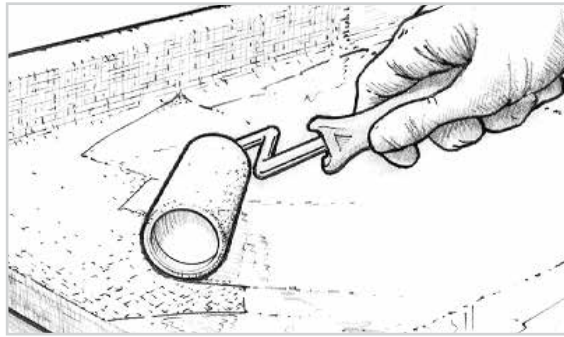

Figure 16-22 Apply the first coat of unthickened epoxy to fill the weave of the cloth before the wet-out coat becomes completely tack free.
9. Coat the surface to fill the weave before the wet-out becomes completely tack free (Figure 16-22). Follow the procedures for epoxy barrier coating under Section 16.4.6. It will take two or three coats to completely fill the weave of the cloth and to allow for a final sanding that will not affect the cloth.